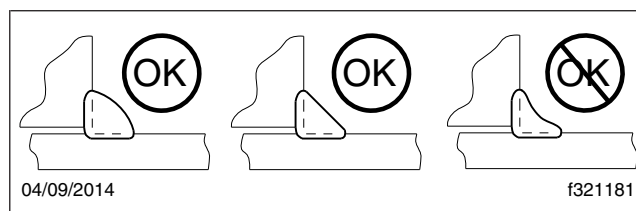

Fig. 4, Acceptable Weld Contours
26. Verify that the weld has a flat or slightly convex contour with a sufficient depth of fusion on both side walls. A concave contour is not allowed because it reduces the throat dimension of the weld. See Fig. 4.